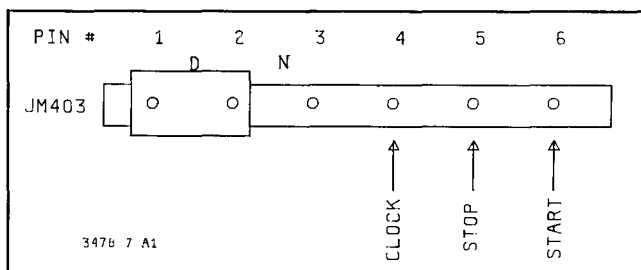

Figure 7-A-1. JM403 SA Connection
b. Move jumpers JM502, JM503, and JM403 to the "D" position (JM403 pin 1 and 2), as shown in Figure 7-A-1.
c. Obtain a Signature Analyzer. Set and connect as follows (shown in Figure 7-A-1):